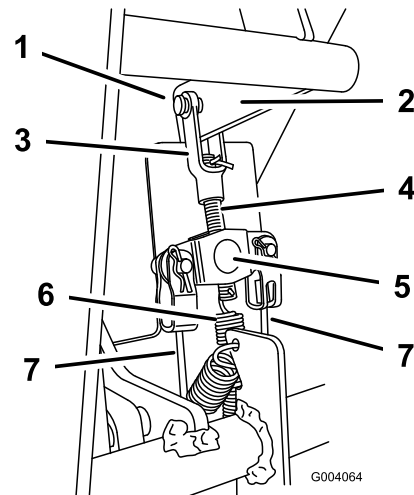

Figure 45
2. Check the brake cables at the brake equalizer (located under the dash) and determine approximately how far up the brake rod the equalizer needs to travel so that there is no slack in the cables (Figure 45).
3. Remove the hairpin cotter and clevis pins securing the brake rod clevis (Figure 45).
4. Disconnect the spring from the end of the brake rod (Figure 45).
6. Thread the brake rod in or out of the brake equalizer as needed to remove the slack from the brake cables (Figure 45). Do not overtighten the cables.
7. Install the spring into the hole in the brake rod (Figure 45).
8. Connect the clevis on the brake rod to the brake lever using the clevis pin and hairpin cotter removed previously (Figure 45).